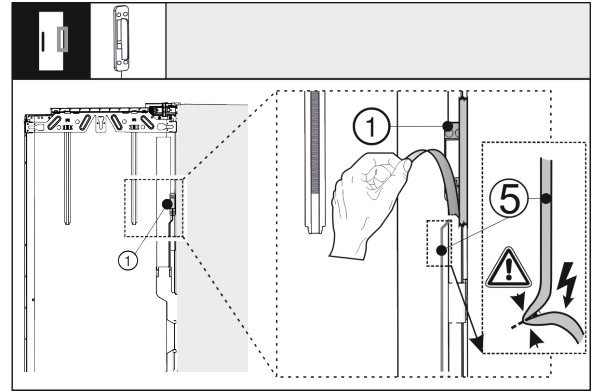

Fig. 39
- Remove the knocking sensor Fig. 39 (1) from the outer door. Do not damage the connection cable Fig. 39 (5).